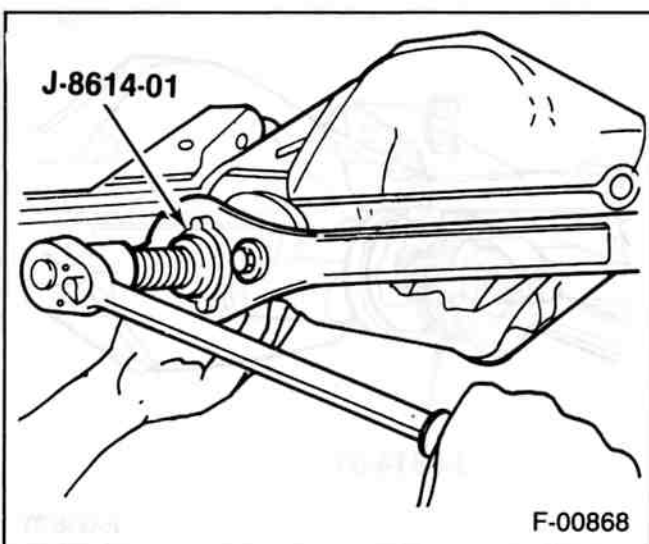

Figure 19—Removing The Drive Pinion Flange
- Use the special nut and forcing screw to remove the flange (figure 19).